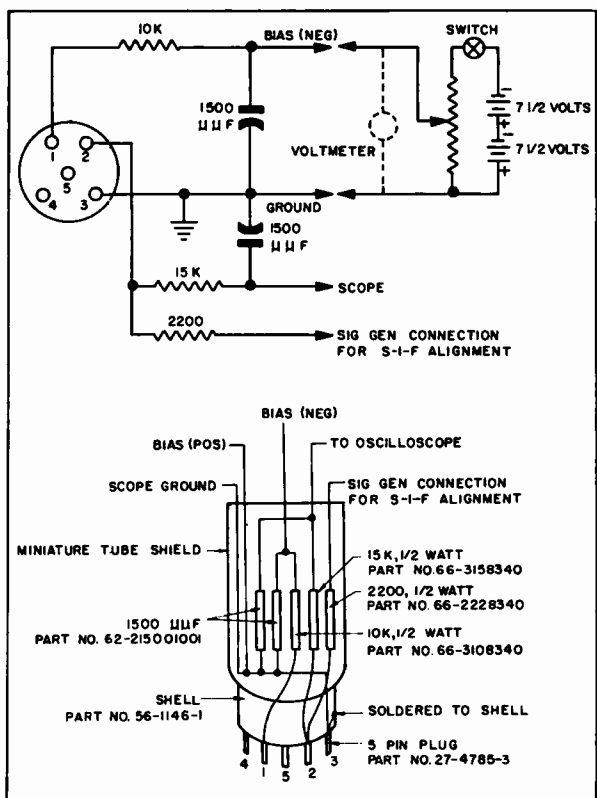

Figure 2. Video I-F Alignment Jig
3. Insert the video i-f alignment jig (figure 2) into J200.
5. With a voltmeter connected across the points shown in figure 2, set the potentiometer to furnish -6 volts of bias.